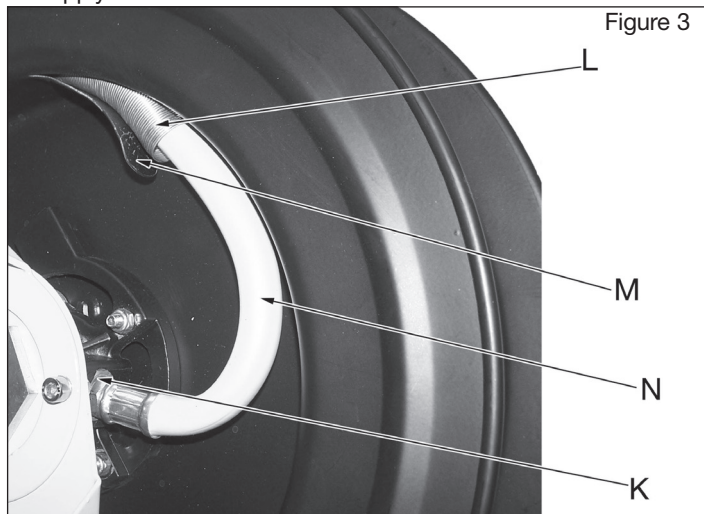

Figure 3
5. Carefully disconnect the hose end (K) from the side of the hose reel and remove the old hose.
6. Remove the hose protection spring (L) from the old hose. Place the protection spring (L) on the new hose and then feed the hose through the hose guide roller bracket and the slot on the drum (M).
7. Apply thread seal tape to the hose threads and connect to the hose reel (K) then tighten.
8. Attach the hose to the inside of the drum with the hose clamp. Make sure the hose has a wide curve (N) to it and is not kinked before tightening the hose clamp.
9. Make sure the hose protector spring (L) is in the correct location (reference Figure 3).